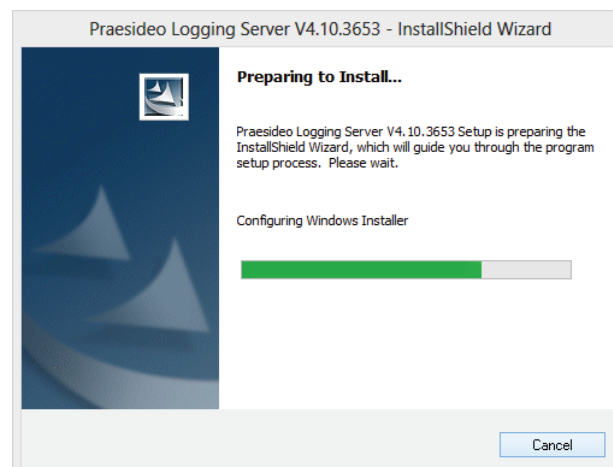

figure 58.1: Logging server setup
- 3 Click the *Open* button to start the setup program of the *Logging Server*. A screen similar to the one in figure 58.1 appears.